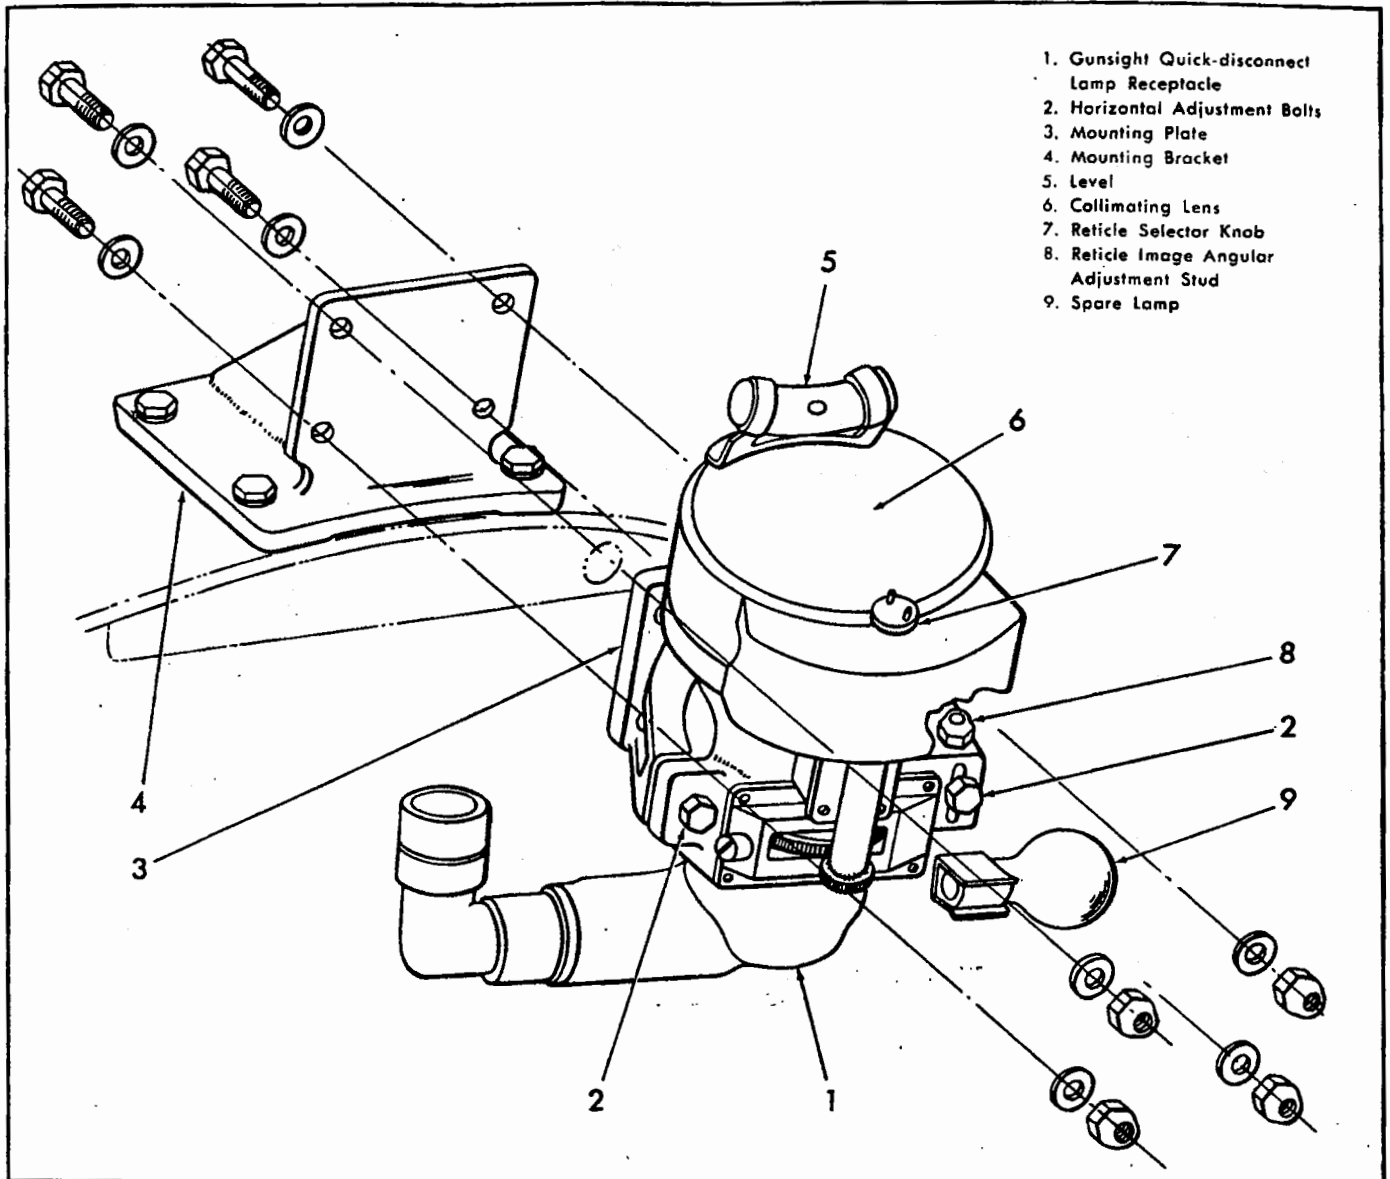

Figure A-14. Mk 20 Gunsight Installation.
A-102. DESCRIPTION. (See figure A-14.) The Mk 20 gunsight located at the front of the cockpit is supported on a mount which is bolted to the instrument cowling. The gunsight consists essentially of a rotatable reticle disc, a reticle selector knob, a series of lenses, a quick-disconnect reticle lamp housing and four gun boresight adjustment bolts. The reticle disc incorporates three reticle patterns, each of a different type. Any one of the reticle patterns may be individually selected for use by turning the reticle selector knob. The selector knob is integral with a shaft which rotates a small gear on its lower end. This gear is meshed with the teeth on the perimeter of the reticle disc which rotates about its center axis. The reticle lamp projects a beam of light through the particular reticle pattern which is positioned
A-106. ADJUSTING. (See figure A-14.) Four adjusting bolts on the gunsight permit vertical, horizontal and angular alignment of the sight for boresighting purposes. The adjustment bolt in the rear permits raising or lowering of the sight line. The two bolts (2) horizontally aligned to each other on the aft face of the gunsight permit horizontal adjustment of the sight line. The threaded stud with the nut on each end (8) located on the right hand side of the gunsight permits angular adjustment of the reticle image. When boresighting the gunsight, use all adjustments together by trial and error. Each adjustment bolt is more or less interrelated with the others in that it affects to some extent the adjustment settings of the others. For boresighting information see paragraph 4-1827.